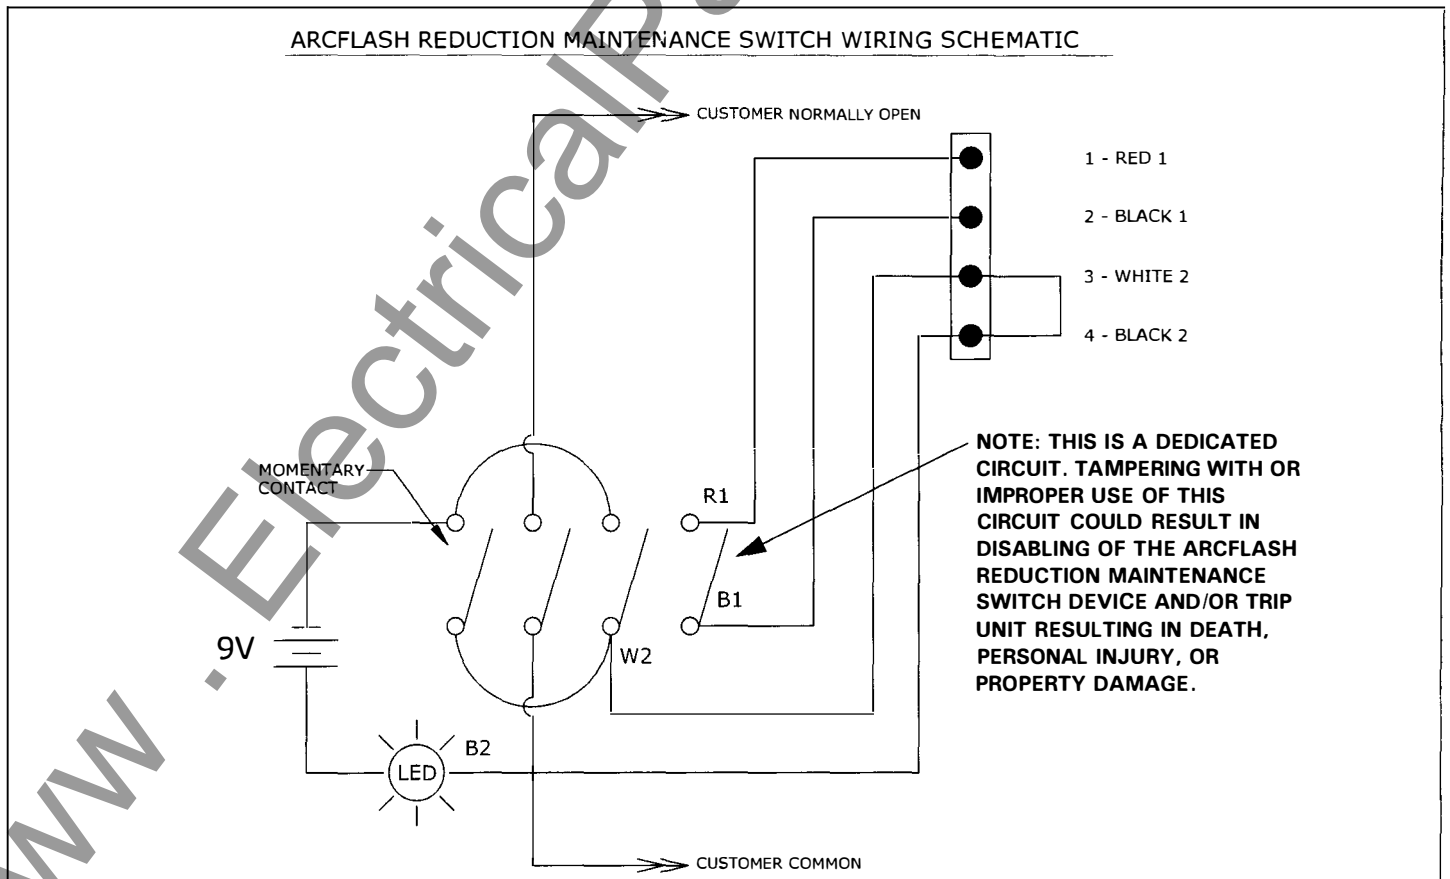

Figure 29. Arcflash Reduction Maintenance Switch Wiring and Connections.
- F. For more information on the RSM wiring and additional customer connections, refer to the wiring and connections drawing (Figure 29).